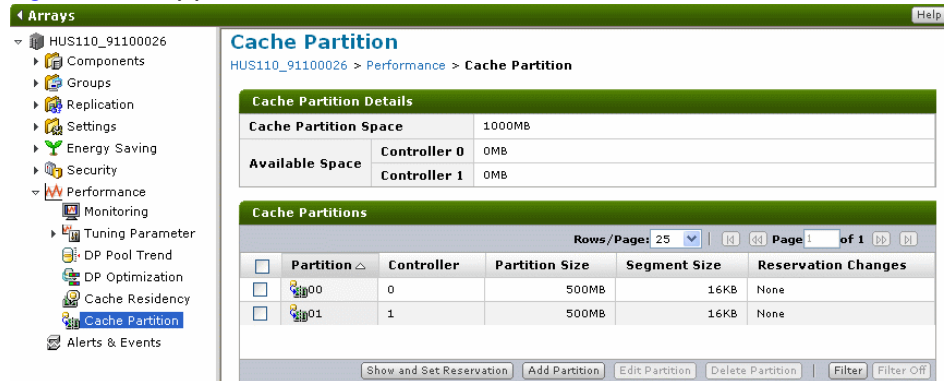

Figure 7-4: Cache Partition dialog box
3. In the Navigation bar, click **Performance**, then click **Cache Partition**. Figure 7-4 appears.
3. In the Navigation bar, click **Performance**, then click **Cache Partition**. Figure 7-4 on page 7-16 appears.
- In the Navigation bar, click **Performance**, then click **Cache Partition**. Figure 7-4 on page 7-16 appears.